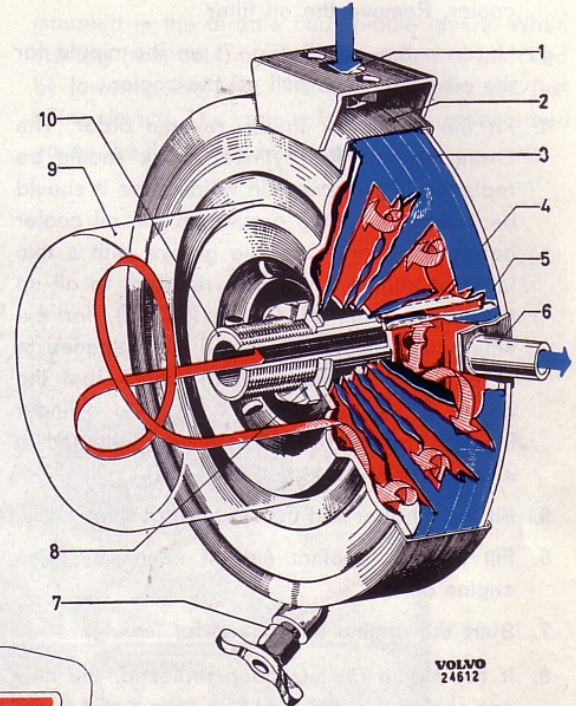

Fig. 6. Oil cooler (B 18 B early prod.)
The oil cooler (Fig. 6) is fitted between the oil filter and the cylinder block and consists of an inner section for the oil which is surrounded by a cooling jacket. The engine coolant is led through the cooling jacket. On its way to the oil filter, the oil passes through the cooler and some of the heat in the oil is conducted away by the coolant. The coolant cannot pass the shortest way from the inlet (1) to the outlet (6), but is forced to circulate round the cooler through the channels formed by the baffles (5). The oil is forced between the pairs of discs in turn due to the transverse baffles (4) on the discs and then finally passes out to the oil filter.